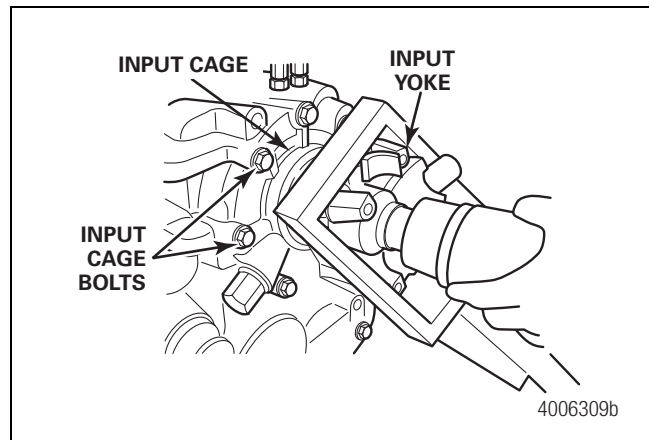

Figure 4.4
2. Use a yoke holder to secure the yokes from turning. Remove the yoke locknuts and washers from the front and rear output shafts. Figure 4.4.
4. Use a yoke holder to secure the input yoke from turning. Loosen but do not remove the front input yoke, locknut and washer from the front input shaft. The yoke is used to lift the input shaft assembly from the transfer case. Figure 4.4.